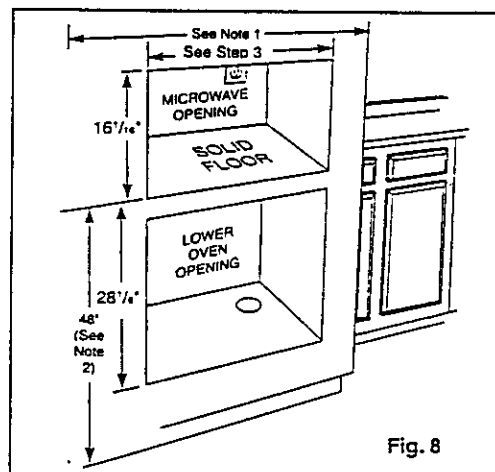

Fig. 8
**Note 2:** For a new installation, the 48" height dimension to the bottom of the cutout for the microwave oven is recommended. This places the microwave oven bottom at approximately 50" from the floor. See figure 8.